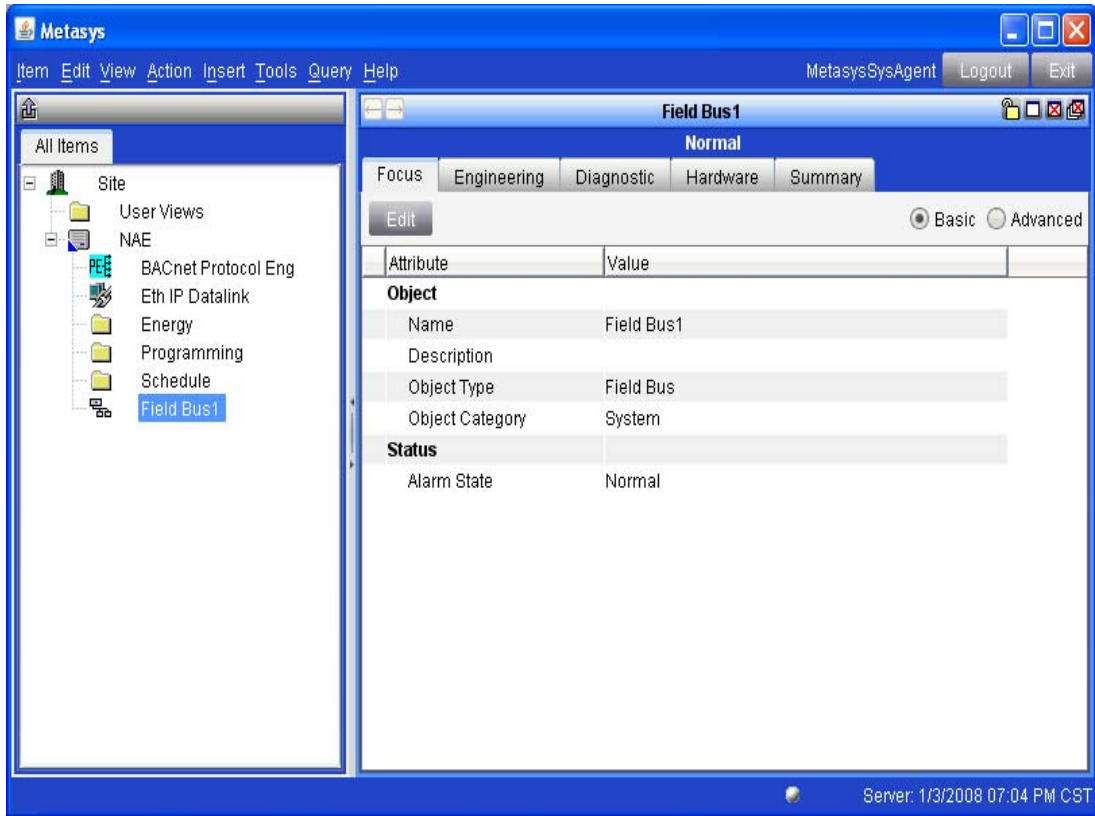

Figure 40: Field Bus Focus Screen
1. Open the **Field Bus Focus** screen (Figure 40), and click **Insert** on the menu bar to open the Insert drop-down menu.